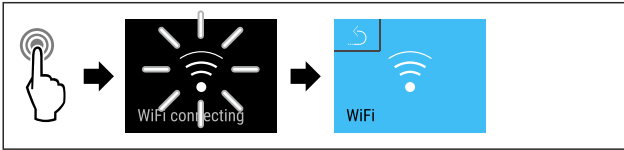

Fig. 118
- ▶ Complete the steps (see Fig. 118) .